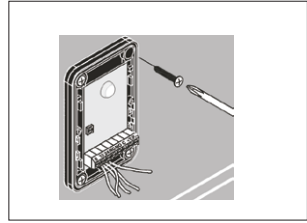

Fig. 7
- 6 - Mount the photo eye with the screws supplied ( Fig. 7);